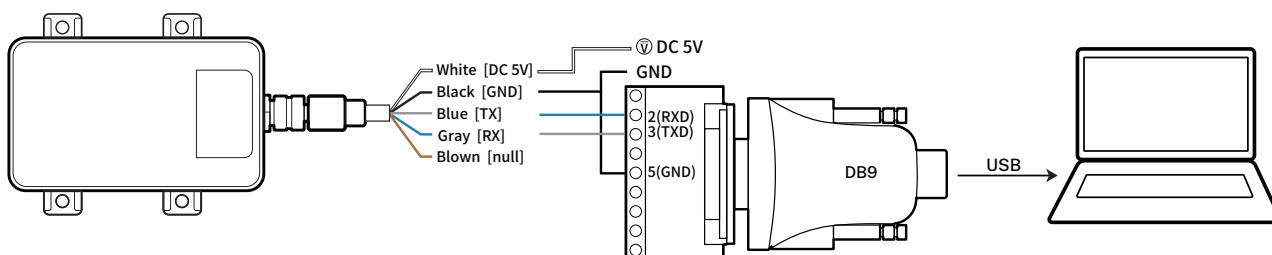

Figure 6. L4s/L4s-Filled to DB9 wiring diagram (brown wire is not connected)
- Follow the instructions in Figure 6 to supply DC5V externally to the L4 module. Ensure that the DB9 adapter cable shares a common ground with the module.